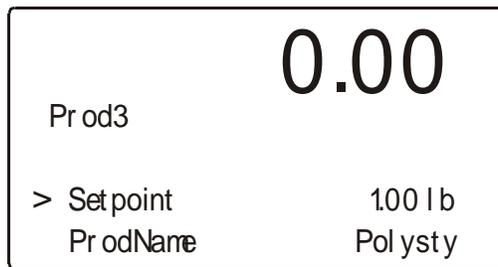

FIG. 3-13 PROD3 MENU/SETTING PRODUCT 3 NAME
- Step 1. Press the Enter button. The Prod3 Menu appears. (See Fig. 3-13)